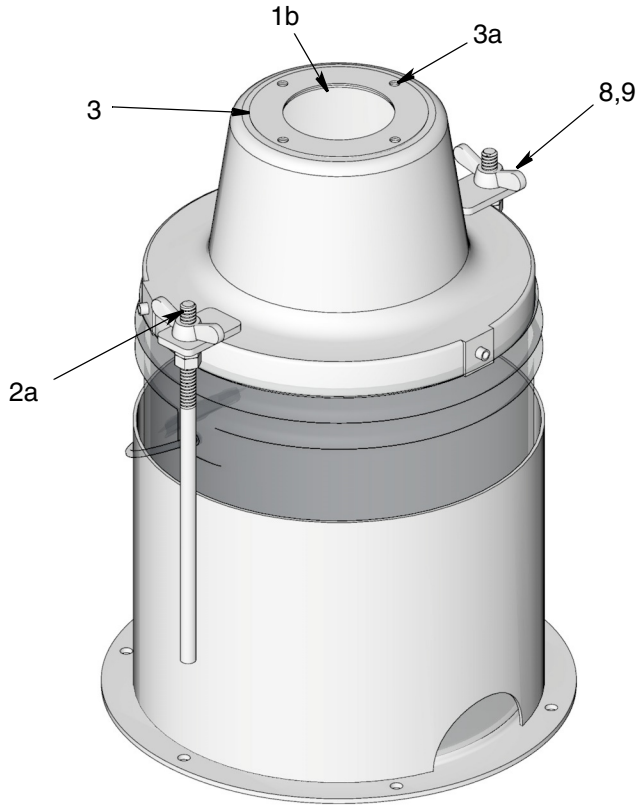

FIG. 4
9. Secure cover (1) to base (2) using washers (8) and wing nuts (9) over the end of the base rod (2a) (FIG. 4). Hand tighten wing nuts securely.
10. Position gasket (3) over hole (1b) in the center of cover (1). Align holes (3a) in gasket (3) with holes in the top of the cover (FIG. 4).